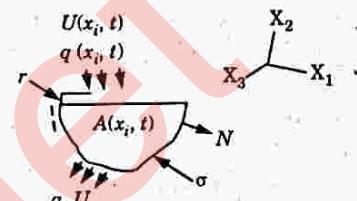

Fig. 1.6.2. Definition sketch of a channel cross section.
5. For a channel cross section with an area A as shown in Fig. 1.6.2, the boundary condition is.